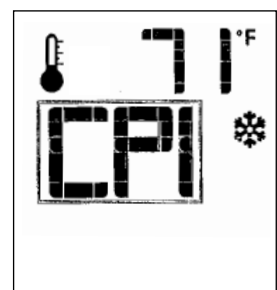

Figure 77. CPI ON.
- With the transmitter in the OFF position, press the transmitter Mode key - IPI is the default mode. Fig. 76. Press the Up arrow to index to the CPI icon and activate the Continuous Pilot Ignition mode. Fig. 77. Pressing the Down Arrow Key will return to Intermittent Pilot Ignition. A single “beep” will confirm reception of the command.